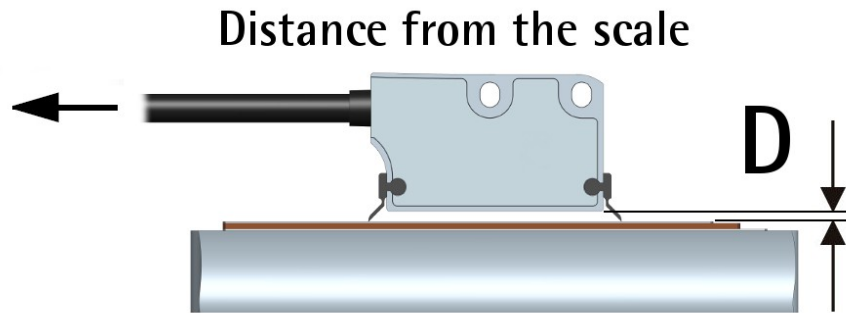
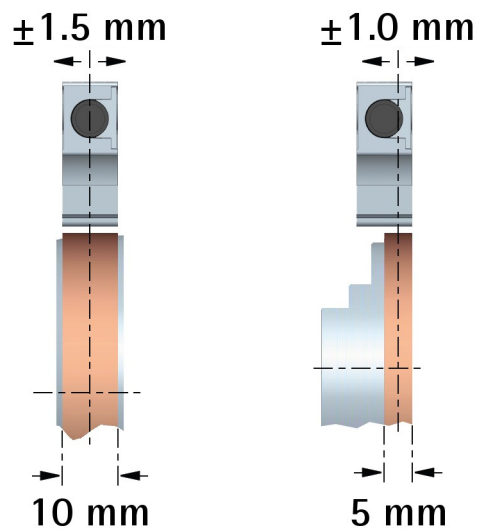
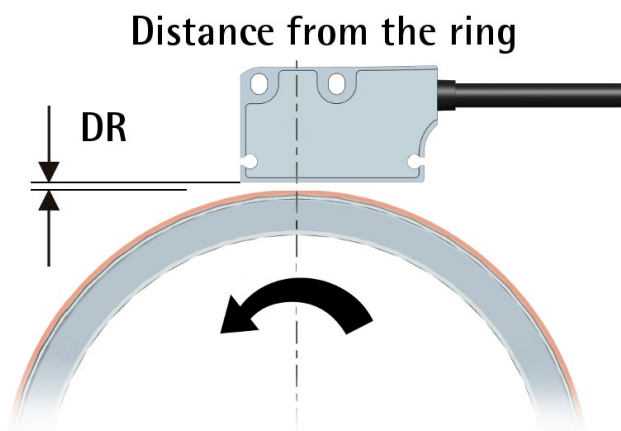

Figure 1 - Encoder / tape mounting gap
Figure 4 - Sensor / ring alignment
Figure 5 - Sensor / ring mounting gap
You can mount the readhead in both directions over the tape. The arrow in Figure 1 indicates the **standard counting direction** (the rising edge of A signal leads the rising edge of B signal) when the sensor moves in the direction indicated by the arrow; further information in the "4.7 Counting direction" section on page 22.
The distance D (see Figure 1) between the bottom of the encoder and the MT magnetic scale must be as follows:
When the sensor is installed on magnetic rings having a 10 mm / 0.4" wide magnetic surface, line up both the sensor and the ring on the central axis. When magnetic rings having a 5 mm / 0.2" wide magnetic surface are used, line up the sensor and the ring as shown in Figure 4; please consider that the incremental sensor is located laterally in the sensing head. With 5 mm rings the mounting direction of the ring makes no difference (but ascertain that the sensor is properly aligned on the correct side!).
To learn about the mounting tolerances refer to the tables below as well as to Figure 4 and Figure 5.
The positive counting direction (the rising edge of A signal leads the rising edge of B signal) is achieved when the sensor moves on the tape according to the arrow shown in Figure 1; or when the ring turns according to the arrow shown in Figure 5. For further information see the "4.7 Counting direction" section on page 22.
3.10 Optional cleaning wipers (Figure 1)
The **standard counting direction** (the channel A leads the channel B) is to be intended with sensor moving as shown in Figure 1 in a linear application; with ring turning as indicated by the arrow in Figure 5 in a rotary application.
By default the phase relationship between A and B channels is so that the rising edge of A channel leads the rising edge of B channel when the encoder moves in the direction shown by the arrow in Figure 1 in a linear application; or when the ring turns as indicated by the arrow in Figure 5 in a rotary application (see the "4.6 ABO, /ABO output channels" section on page 20). Thus the counter in the subsequent electronics will get a count up. It cannot be changed.